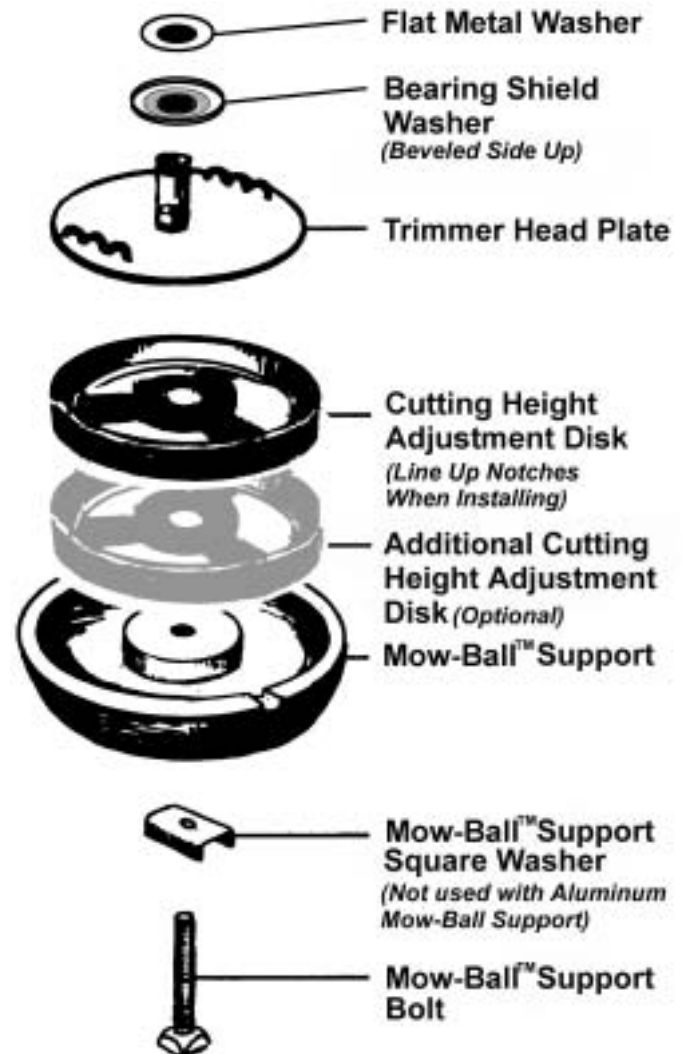

Figure 29
1. Reassemble the components in the order shown in Figure 29.